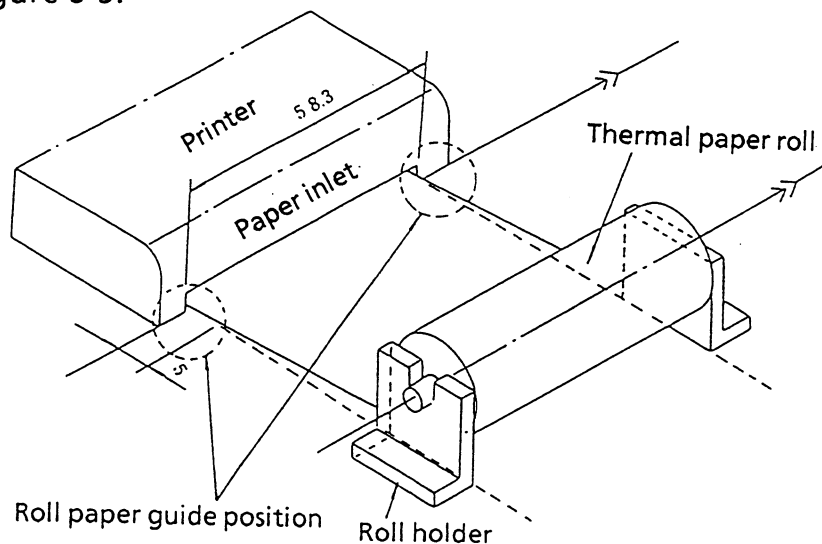

Figure 6-5 Thermal Paper Roll Holder Attachment Position (With Core)
- The axis of the holder must be parallel with the paper inlet of the printer, as shown in Figure 6-5.